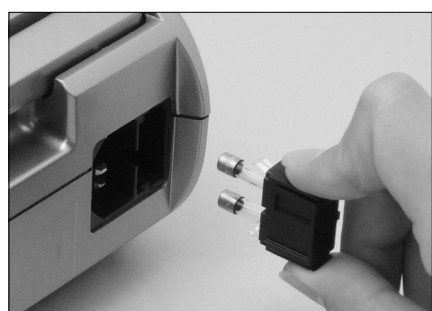

Fig.6
Fuses are located in the Power Connector Assembly (9). Depress the spring tabs located on the top and bottom of the Power Connector Assembly and remove it to change the fuses. (T3: 15A/250V for 120V, T1.6A/250V for 230V). (Fig. 6)